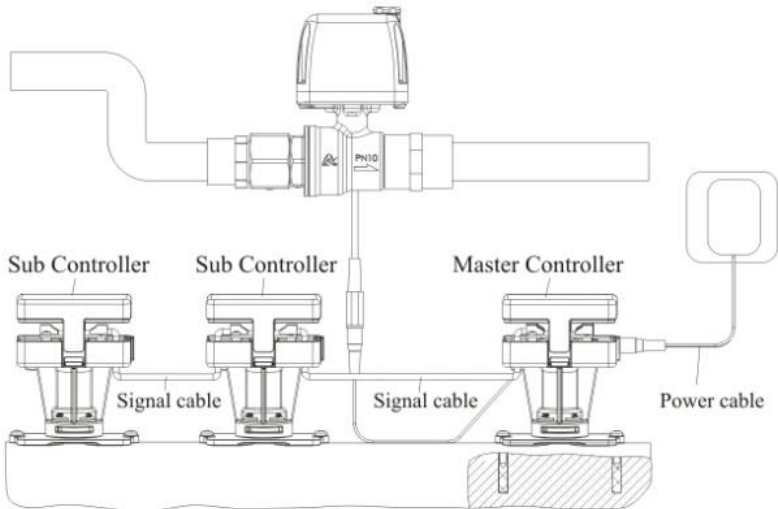

Figure 8
②. Wiring of multiple detection points, as Figure 8 shows (F104B can only be used with F104A, F104D can only be used with F104C)